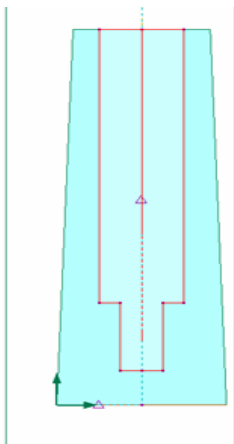

fig 4
7. Draw the slot profile as shown. (fig 4) Add dimensions. (fig 5)